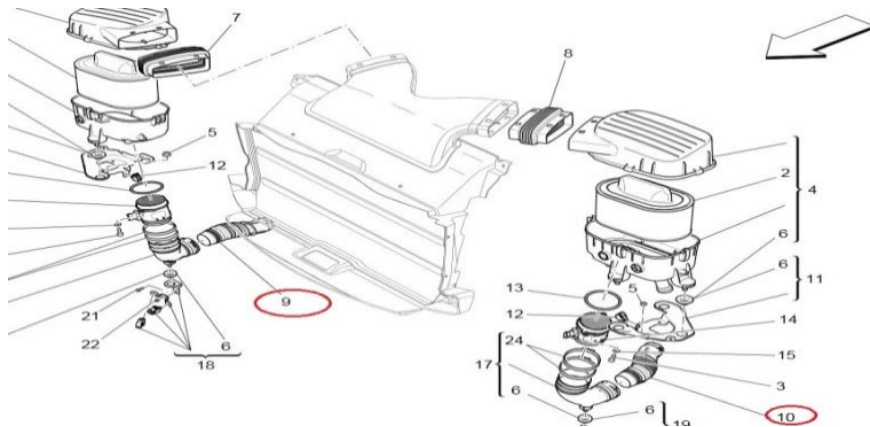

Figure 7 - lower air duct
- 11) Next, using an endoscope, check the compressor impeller (suction side). To perform this check it is not necessary to remove the turbo. It can be accessed by removing tube # 9 or 10 (lower air duct) shown in figure 7.